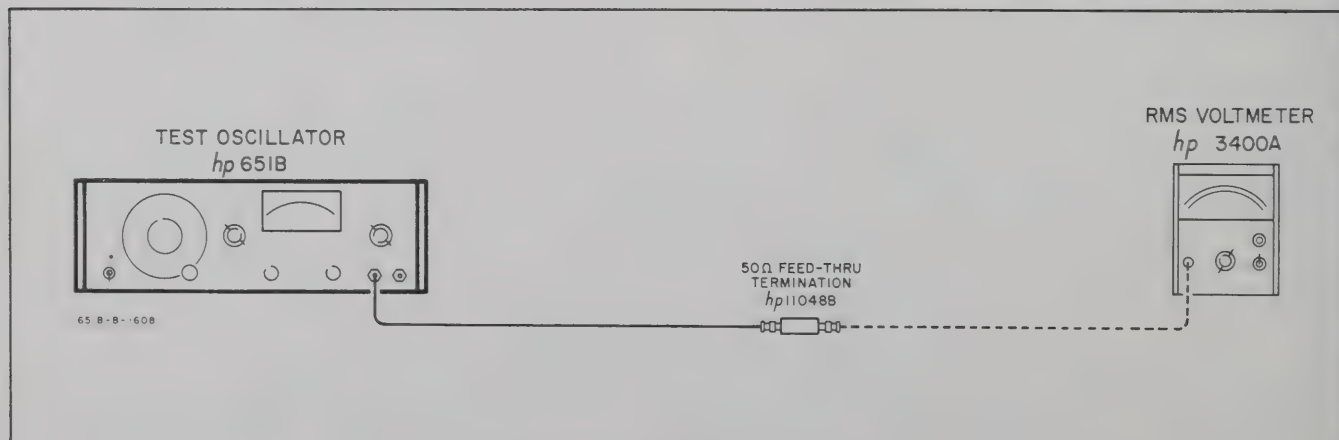

Figure 5-2. Output Checks
- a. Connect rms voltmeter to 50 Ω output terminal of 651B as shown in Figure 5-2. With Option 02-651B, use 75 Ω feed-thru termination (-hp- Model 11094A).
- a. Connect rms voltmeter to 50 Ω output terminal of 651B as shown in Figure 5-2. For Option 02-651B, use 75 Ω feed-thru termination (-hp-Model 11094A). Use an rms voltmeter with known error at frequency to be used (400 Hz).
- a. Connect rms voltmeter to 50 Ω output terminal of 651B as shown in Figure 5-2. For Option 02-651B, use 75 Ω feed-thru termination (-hp- Model 11094A).